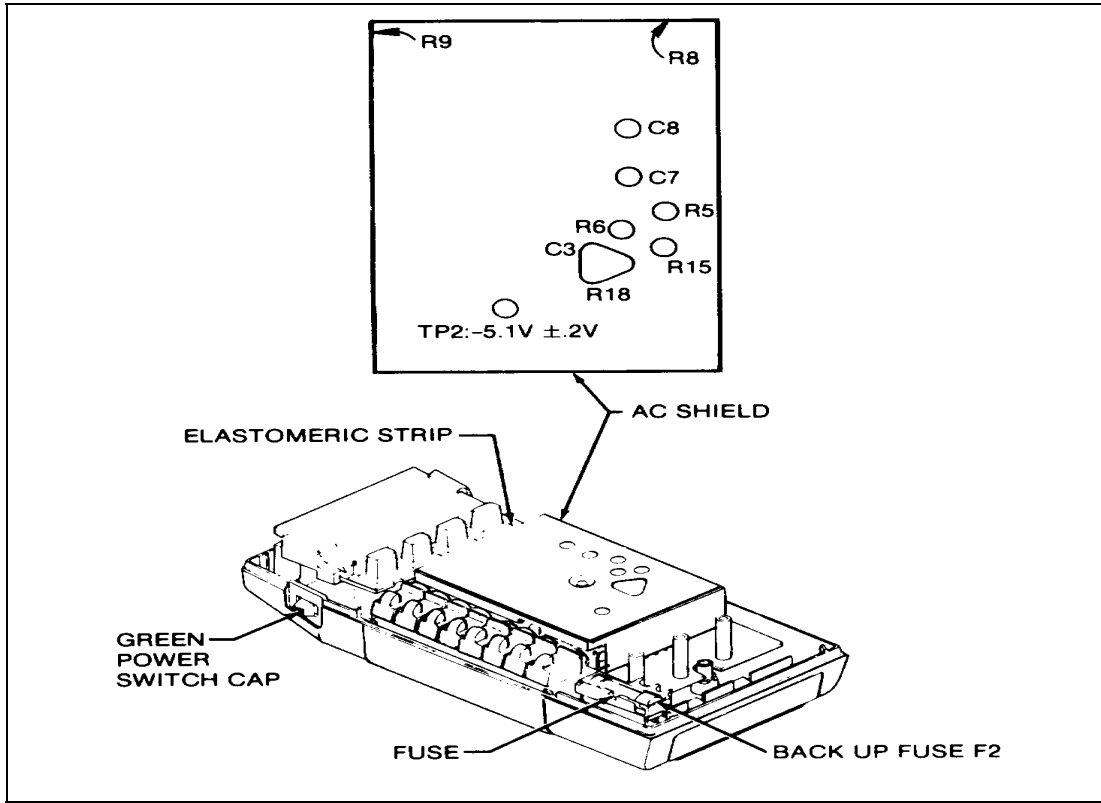

Figure 1. Access and adjustments.
- (1) Set calibrator to 190 mV. Press TI **200 mV** pushbutton and adjust R8 (fig. 1) for a TI indication of 190.00 (R).
- (2) Press **2V** pushbutton. Adjust R6 (fig. 1) fully cw and adjust R5 (fig. 1) ccw.
- (3) Set calibrator output to 1.9000 V. Adjust R5 (fig. 1) for a TI indication slightly greater than 1.9000. Adjust R6 (fig. 1) for a TI indication of 1.9000 (R).
- (1) Adjust R18 (fig. 1) fully cw and adjust R15 (fig. 1) ccw.
- (2) Set calibrator output to 100.00 mV. Adjust R15 (fig. 1) for a TI indication slightly greater than 100.00 mV. Adjust R18 (fig. 1) for a TI indication of 100.00 mV (R).